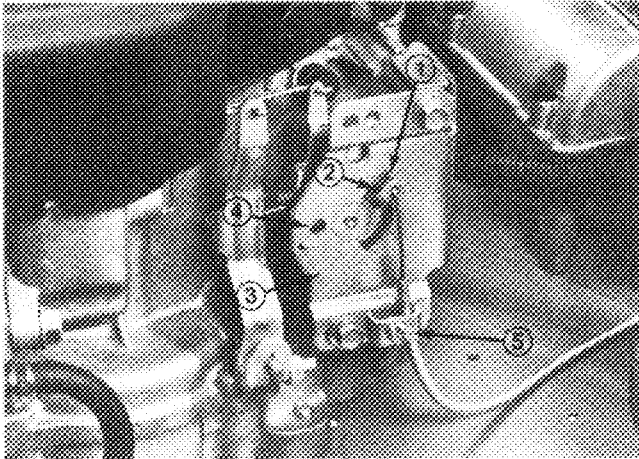

Figure 5
- C. Hook wire Z-bend into hole of speed control lever (Fig. 5).
- D. Loosen cable clamp screw allowing cable installation, but do not tighten (Fig. 5).